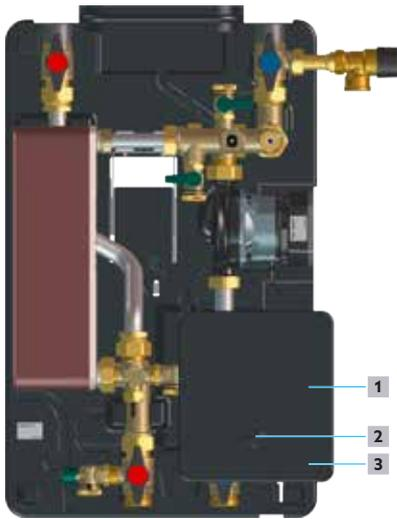

Fig. 8: Opening the controller
- 3 Loosen the screw (position 2 in Fig. 8 on page 19) and put it aside.
- 4 Slide the connection panel cover (position 1 in Fig. 8 on page 19) upwards until it audibly clicks into place.
- 5 Fold down the supply line cover (position 3 in Fig. 8 on page 19).